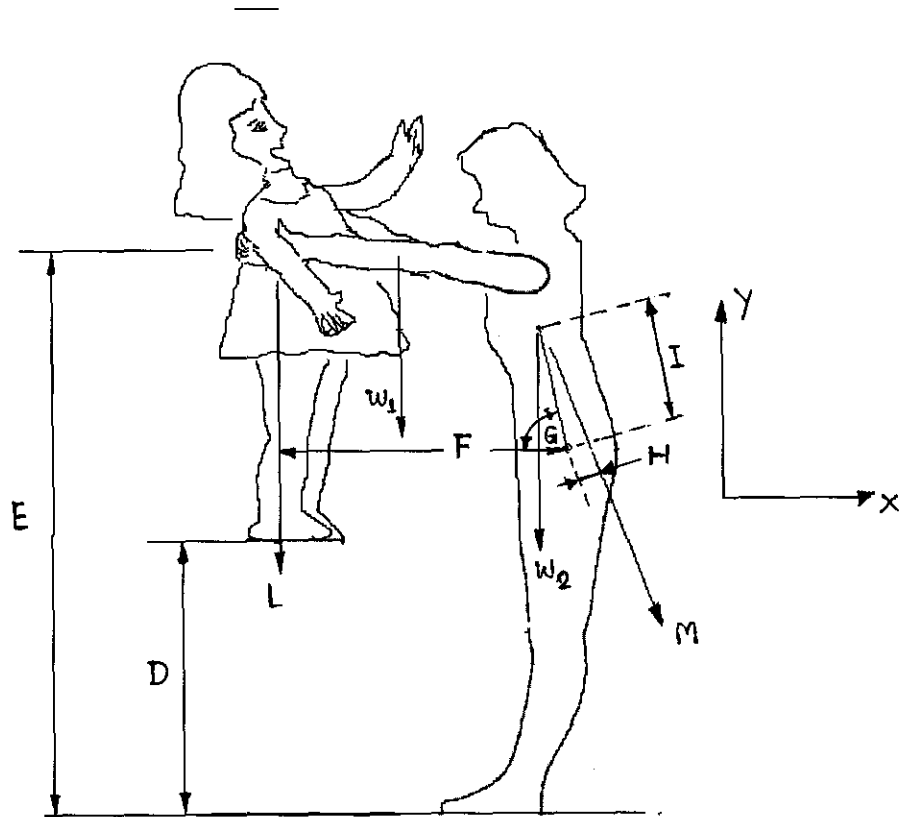

Figure 5: Show posture & all dimensions while a lady is lifting her baby.
2. A 56 kg lady is lifting her 15 kg baby who is standing on the floor to the upper bed (figure 4-5). The weight of some body segments and other important data are given in table 1. The center of mass, for all upper body part of the lady, is located 1 inches from L5/S1 joint as shown in figure 5.